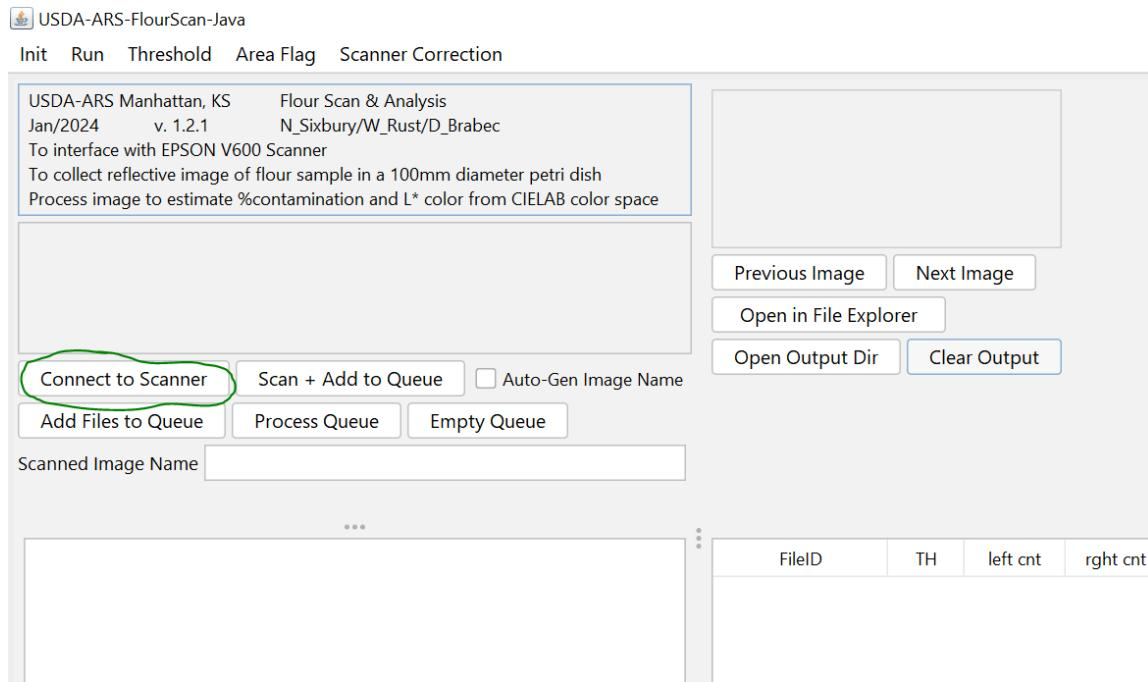

Fig 3: Flour scan software – user interface with the “Connect to Scanner” button circled.
- 2) Ensure that the EPSON v600 scanner is turned on, and then click “Connect to Scanner” in the program. [Fig. 3]